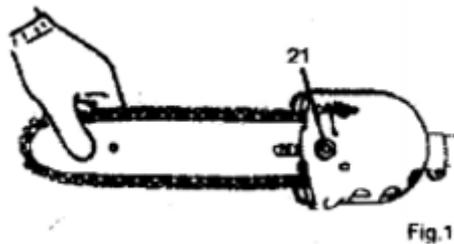

Fig.17
7. Lift the tip of the bar and tighten the bar nut firmly. View (Figure 17)